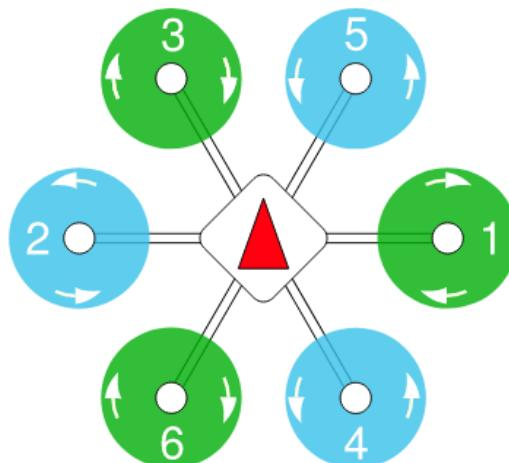

Figure 13: Hexarotor x airframe setup.
- Airframe set to Hexarotor X (see figure 13 and PX4 Dev Guide: Airframe Setup)